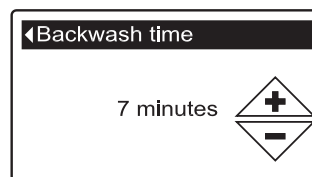

FIG. 63
- 8a. **Backwash time:** Press the UP (▲) or DOWN (▼) buttons to change the backwash time. Hold the button down to rapidly advance. The backwash time can be set from 1 to 30 minutes* (See Figure 63).